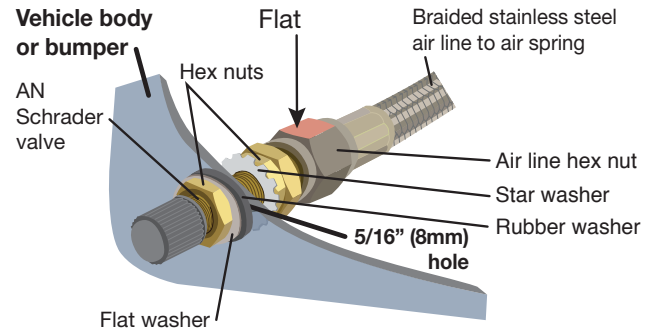
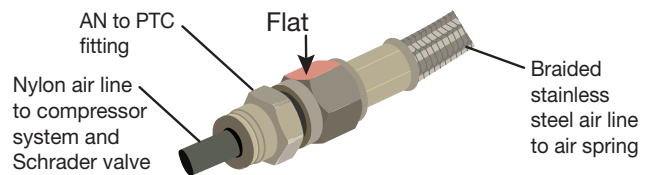

Fig. 27
Fig. 28
2. Tighten the air line hex nut finger tight, then use 2 wrenches to turn 1 additional flat (1/6 of one full turn). Do not overtighten (Fig. 27 or Fig. 28). The easiest way to tighten the fitting is off the vehicle. Install the Schrader valve in the chosen location.